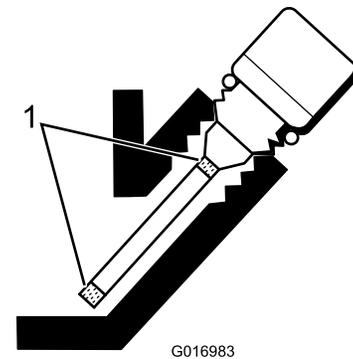

Figure 23
5. If the level is low, add only enough oil to raise the level until it is between the hatch marks on the gauge (Figure 23).